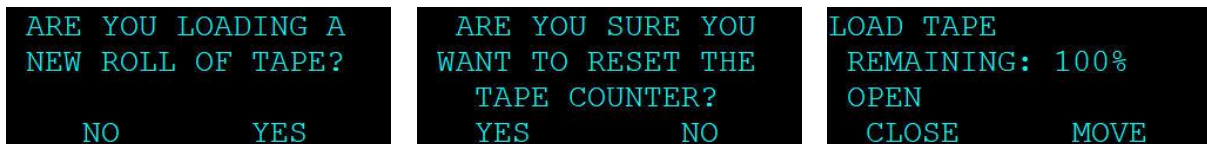

Figure 3-6 BC 1060 Replacement Tape Loading Sequence Screens
2. Select YES to ARE YOU LOADING A NEW ROLL OF TAPE. The sequence will advance to the tape counter reset screen (see Figure 3-6).
3. If installing a new full roll of tape, select YES to reset the tape counter to 100% TAPE REMAINING and advance to the LOAD TAPE screen (see Figure 3-6).